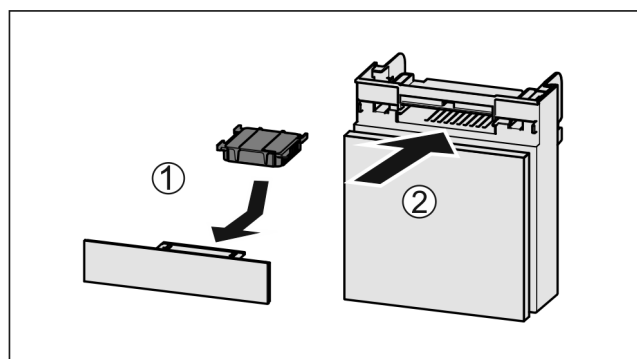

Fig. 152
- ▶ Insert the carbon filter as shown in the diagram *Fig. 152 (1)*.
- ▶ Push the compartment in *Fig. 152 (2)*.